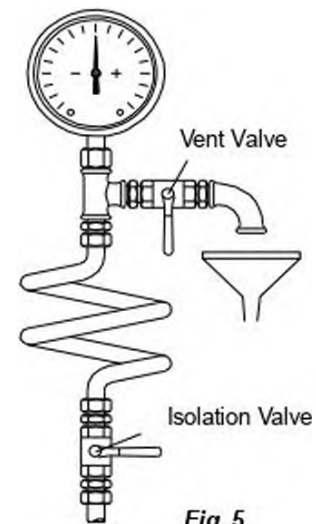

Fig. 5.
- Pressure and vacuum gauges must be properly anchored and connected at the measuring points located on the pump flanges or on the pipes close to the flanges approximately 8 mm diameter tubing with pig tail configuration to lessen pressure fluctuation. For safety purposes isolating and vent valves should be fitted before the gauges (Fig. 5).